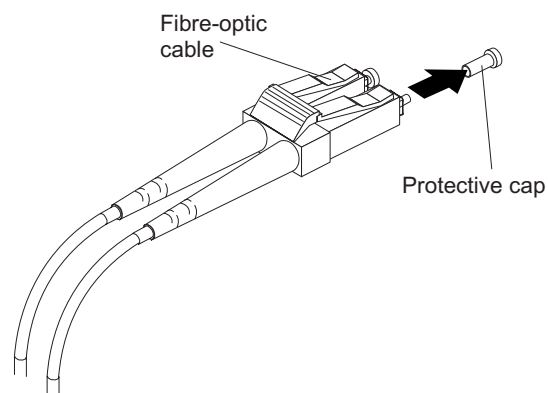

Figure 36. Removing fibre-optic cable protective caps
3. Remove the two protective caps from one end of the LC-LC cable, as shown in Figure 36. Save the protective caps for future use.